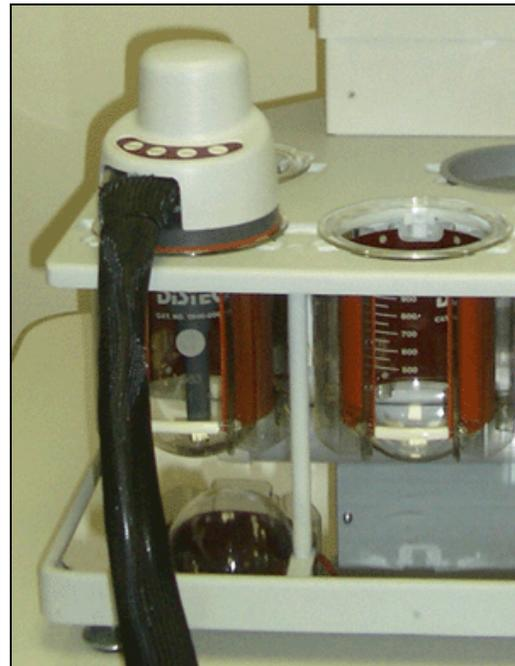

Figure 1: Universal Wash Module
3. Remove the Universal Wash Module (UWM) from the top cover and insert the UWM into the vessel to be cleaned (see Figure 1).